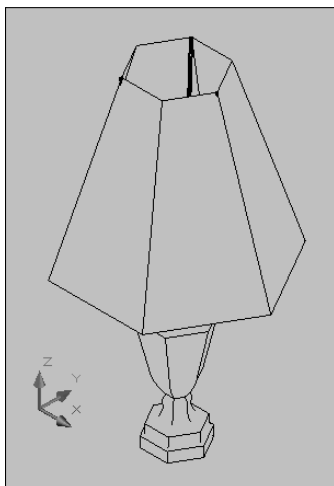

**Figure 24-38:** The lamp is now ready to place in a 3D drawing of a house.
5. To get a better view, choose View ⇄ 3D Views ⇄ SE Isometric. Change the visual style to 3D Hidden (View ⇄ Visual Styles ⇄ 3D Hidden). The lamp should look like Figure 24-38. Remember, looking at the lamp from a different viewpoint does not change the orientation of the lamp relative to the UCS.